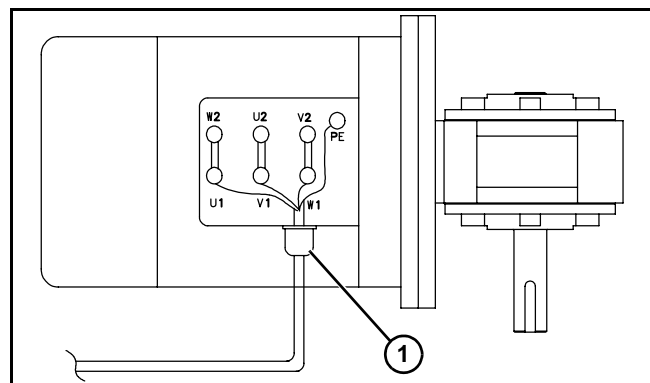

Figure 29
- b. Record wire colors on terminals U1, V1, W1 and PE (Figure 29). Loosen terminals U1, V1, W1 and PE and remove wires.
- c. Loosen cord grip (Figure 29, item 1) and remove cord.